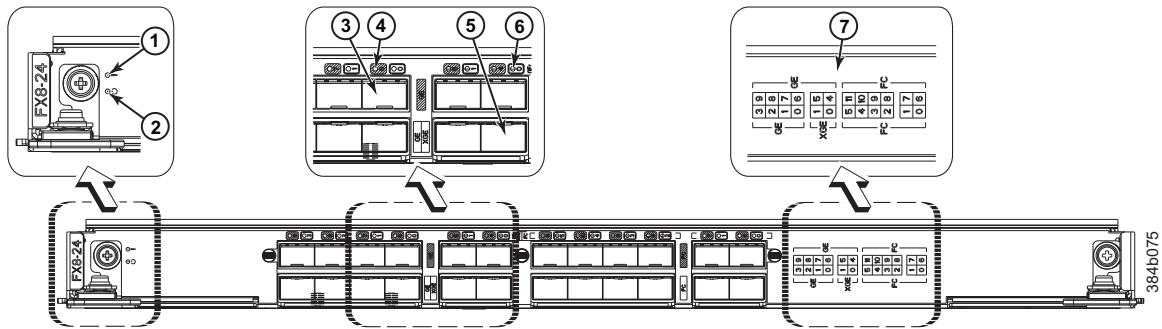

Figure 26. FX8-24 extension blade
- Figure 26 on page 60 illustrates the FX8-24 extension blade